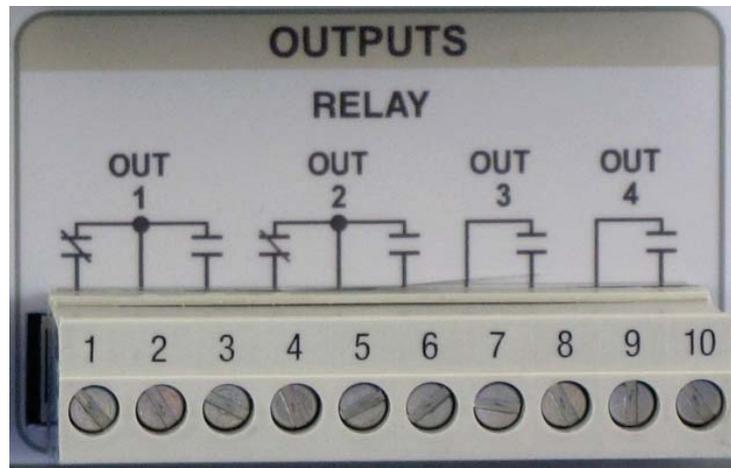

FIG 5D
B. Outputs. Refer to **FIG 5D** (close up view of Output relays)